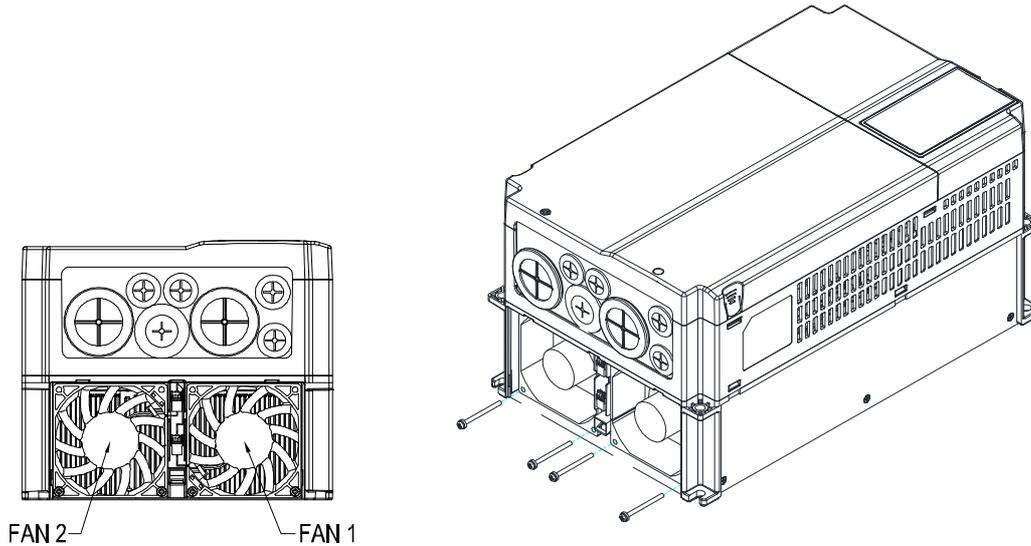

Figure 2
2. (As shown in Figure 2), remove the power connector, loosen the screw and remove the fan kit. When installing the fan kit, have the label on the fan kit facing inside of the motor drive.